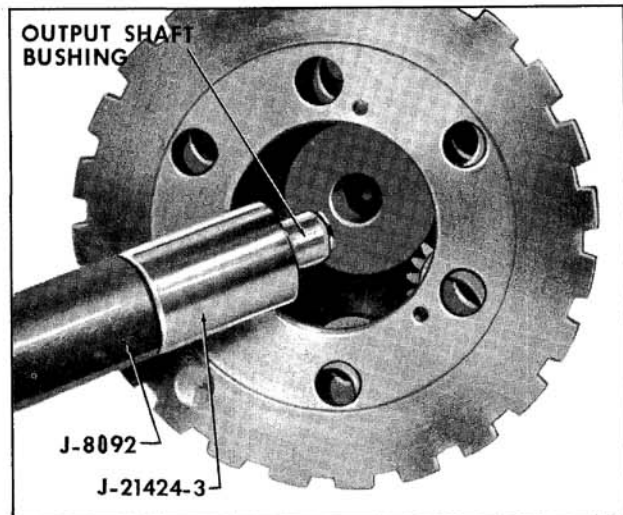

Fig. 6-463 Installing Output Shaft Bushing
1. Using Tool J-21424-3 and J-8592, press the new bushing in until J-21424-3 touches the machined surface of the planet carrier assembly. (Fig. 6-463)